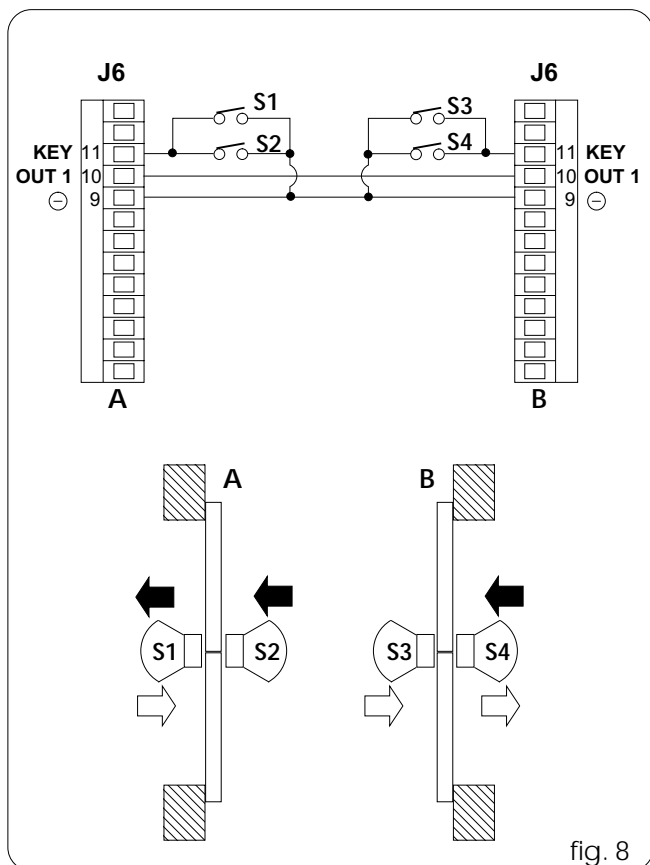

fig. 8
- Make the connections between the J6 terminal boards of the two 940SDM control boards and the sensors as shown in figure 8.